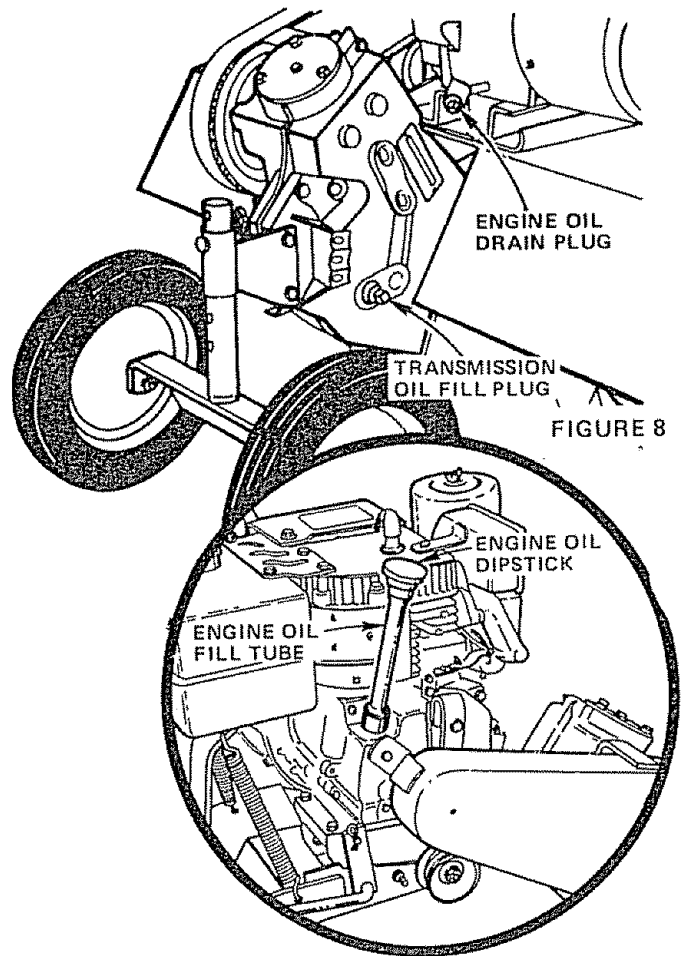

FIGURE 8
1. Drain Engine Oil by removing the Engine Oil Drain Plug (Fig. 8) and Oil Dipstick (Fig. 8 - Inset). Catch Oil in a suitable container. Replace Engine Oil Drain Plug
CHECK TRANSMISSION OIL LEVEL AFTER FIRST 5 HOURS OF OPERATION. Remove Oil Fill Plug (Fig. 8). Oil Level must be even with this Plug Hole (with Tiller level). If necessary, add Oil. Use S.A.E. 30 Motor Oil (SC, SD or SE), (same as engine). Replace Oil Fill Plug.